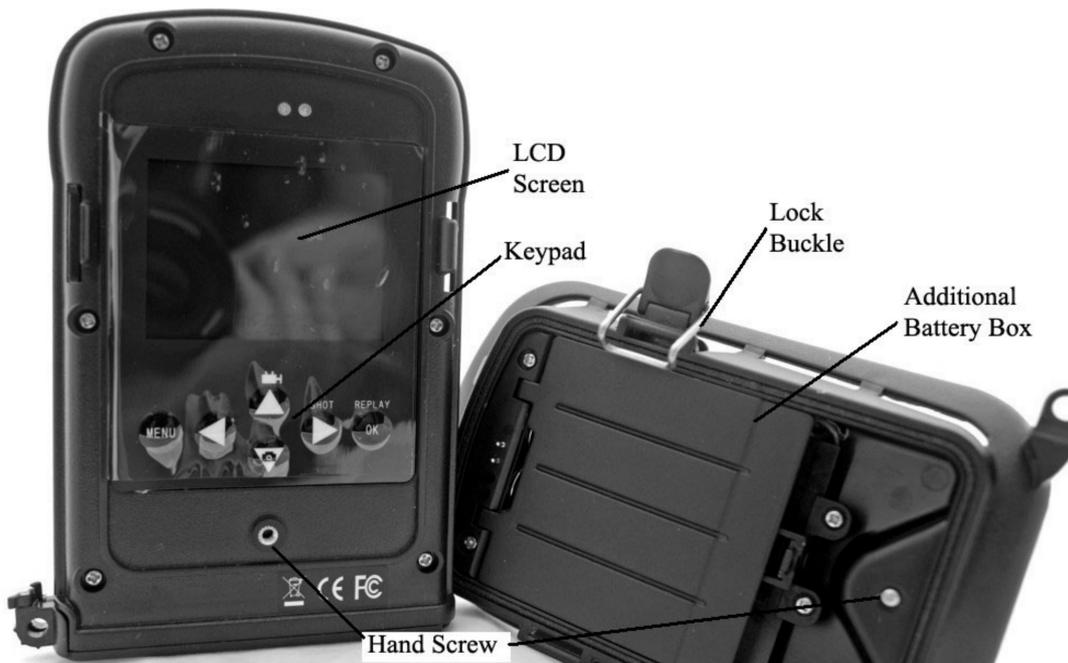

Figure 1.3: Back View
- Figure 1.3 shows the back view of the camera